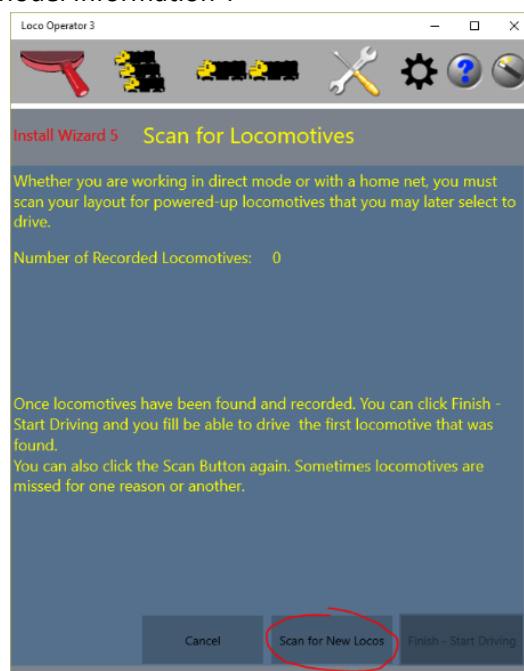
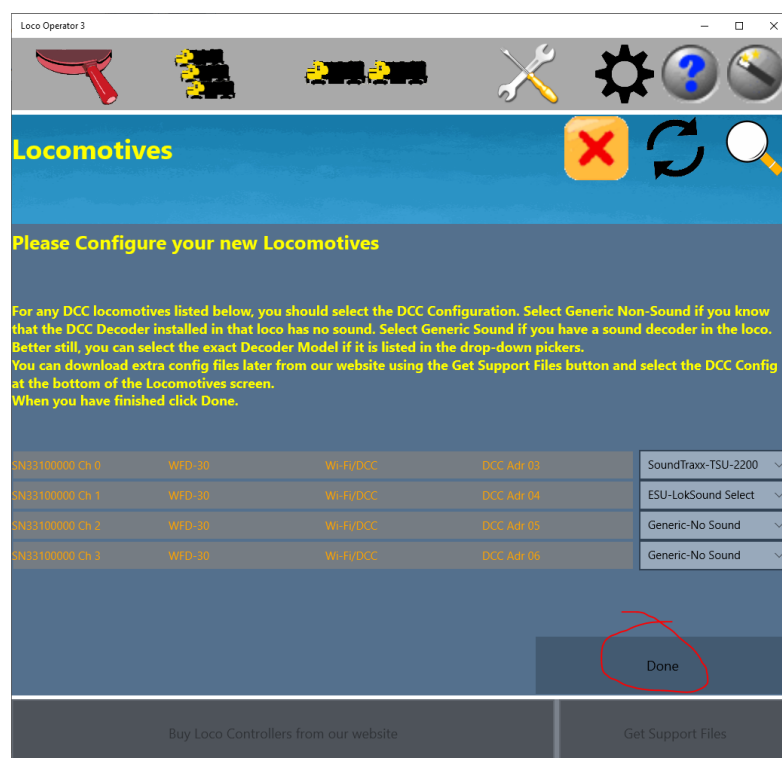

Figure 38 Install Wizard Page 5
Figure 39 Install Wizard - New Locomotives Found
- (3) You now see the Install Wizard 5 screen as Figure 38. This screen allows you to scan for locomotives or other WifiTrax controllers. Click the Scan for New Locos button and click Continue on the pop-up. Your new locomotives should now appear as entries in a list as Figure 39. For WFD-31, you will see the default roster (4 locos out of 16 maximum), there is a pop-up allowing you to select the DCC Decoder that you have installed. The default is Generic-Sound. When you have made your selections click Done. If your decoder is not in the drop-down list, select a generic option and see the section “Customizing Decoder Model Information”.